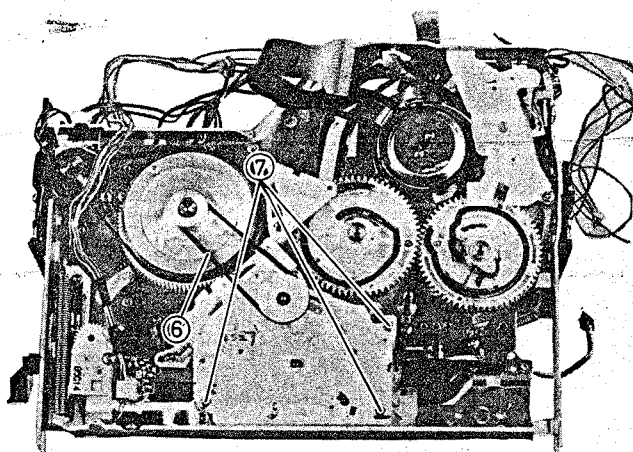

Fig. 2-115 Reel Gear Block Removal
Reel Gear Block Removal (Fig. 2-115)
6. Remove the belt from the reel gear block. (See Fig. 2-115)
7. Remove three (3) screws holding the reel gear block.
6. Remove the reel gear block. (See Fig. 2-115)